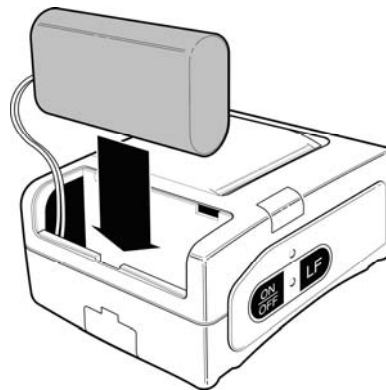

Figure 58: Installing the New Battery
- Insert the battery and its connecting cable into the battery compartment as shown in Figure 58 above.